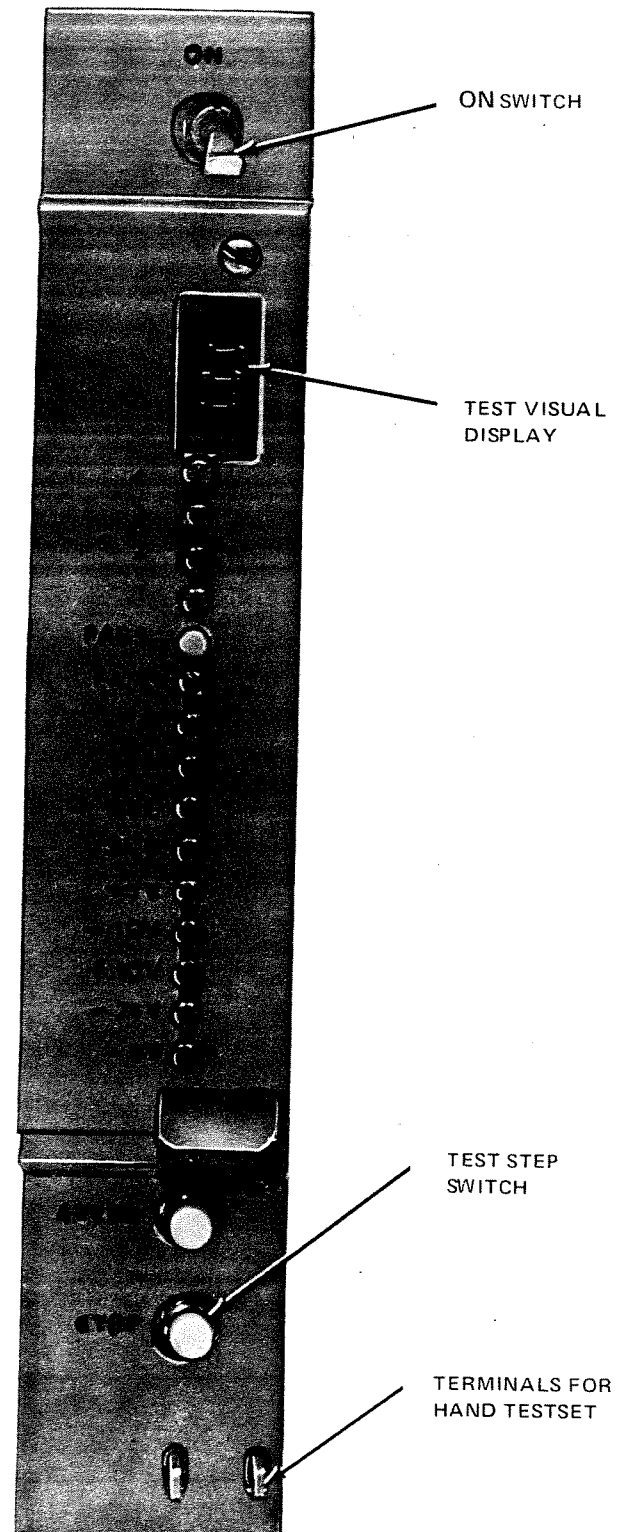
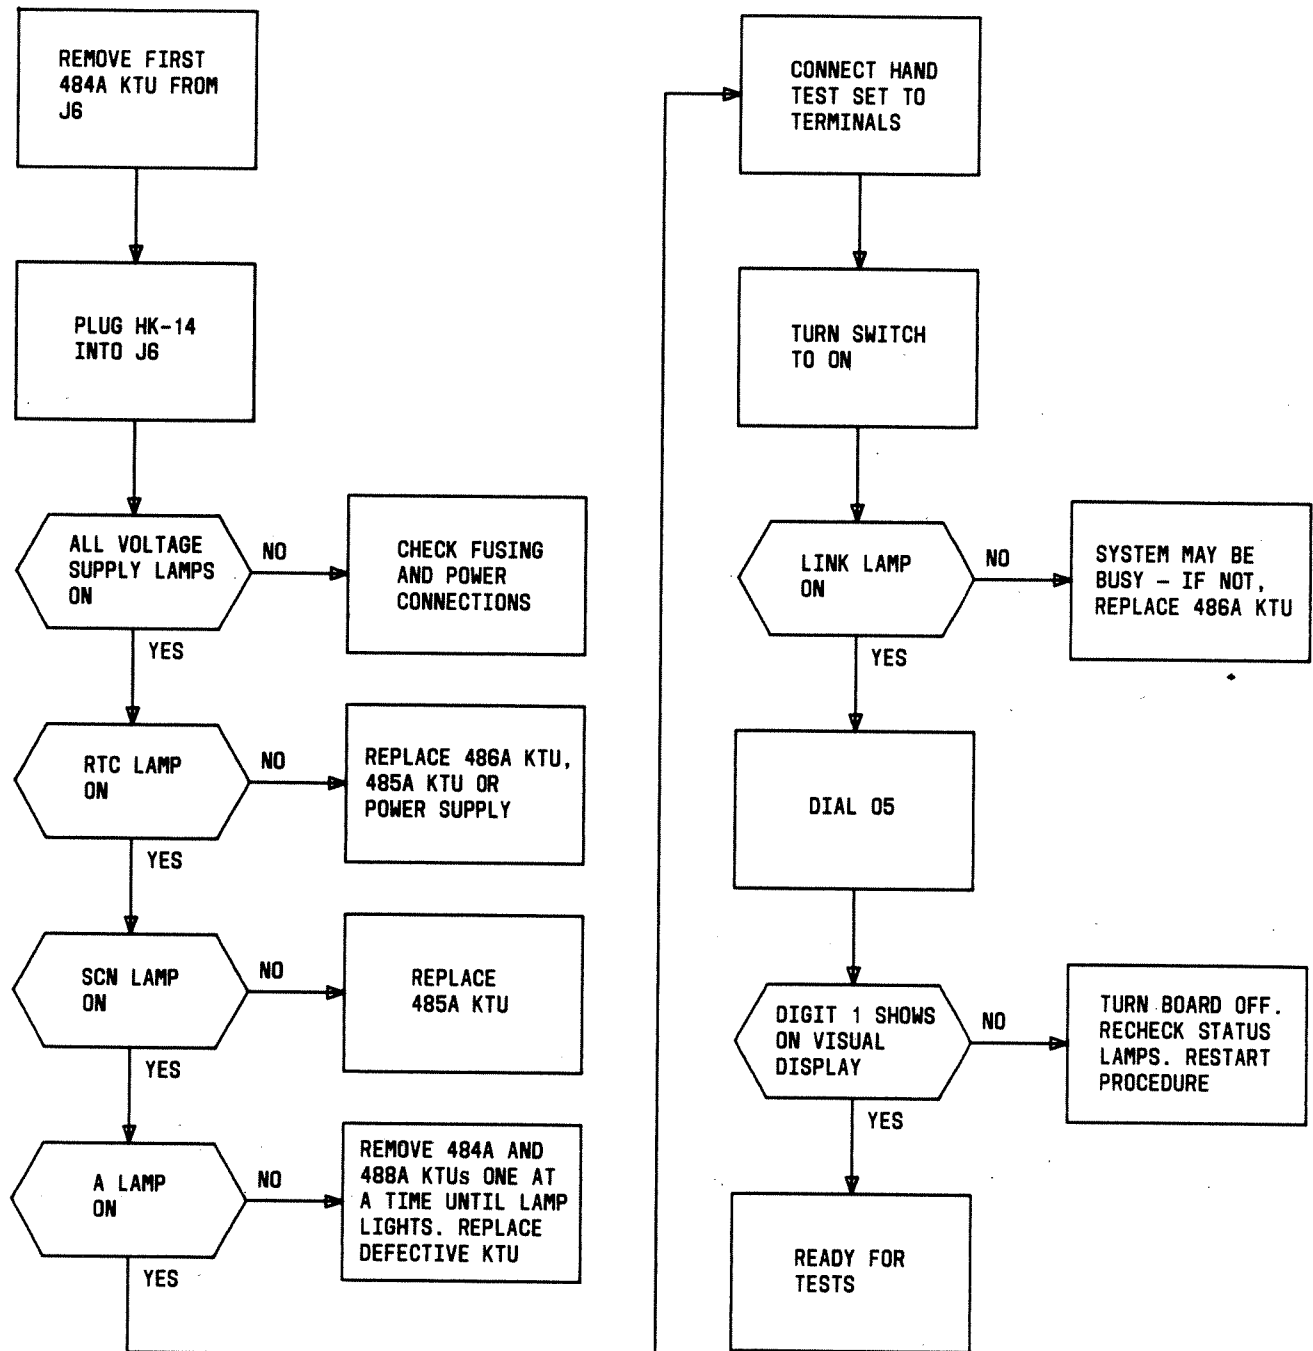

Fig. 12—941A Tool Faceplate
Fig. 23—941A Tool Diagnostic Circuit Preparation
- Diagnostic test sequences (Fig. 23 through 34).
6.04 These tests require the use of the optional 941A tool (Fig. 12) and a 1013-type hand test set. Maintenance operations involving the 941A tool should be performed by 2nd-tier maintenance personnel only. Using the test sequences, the status of the major signaling busses and the system power for all links can be tested. Visual signals are provided on the circuit pack and audible tones heard in the hand test set.
6.06 To start the sequence after the switch is turned to ON, 05 must be dialed on the hand test set. The 941A tool will then test each link for each test. For instance, after 05 is dialed, the digit 1 will be displayed and link 1 tested for dial tone, then link 2 and if provided, links 3 and 4. The craftsperson must listen for dial tone as well as look at the "PASS" LED. The test will then be repeated unless the STEP switch is depressed or the 941A tool turned off. If the STEP switch is depressed, the 941A tool will make the next test of each link in sequence. The test being made is displayed visually (Fig. 12). If it is desired to make a particular test, the 941A tool must be stepped until the proper digit or letter is displayed. Refer to Table P and Fig. 23 through 34 for the 941A tool preparation sequence and the individual test sequences.